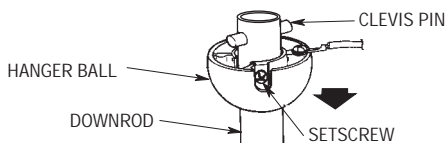

Figure 16
- 3. Obtain the hanger ball/downrod assembly and remove the hanger ball by loosening the setscrew in the hanger ball until the ball falls freely down the downrod (Figure 16). Remove the pin from the downrod, then remove the hanger ball. Retain the pin and hanger ball for reinstallation in step 9.